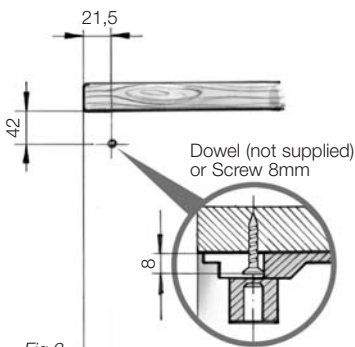

Fig.3
- Mark the position of the guide roller, drill a hole 8 mm in diameter, fit the positioning dowels. (Fig.3) You can also use the template provided on the last page of this manual